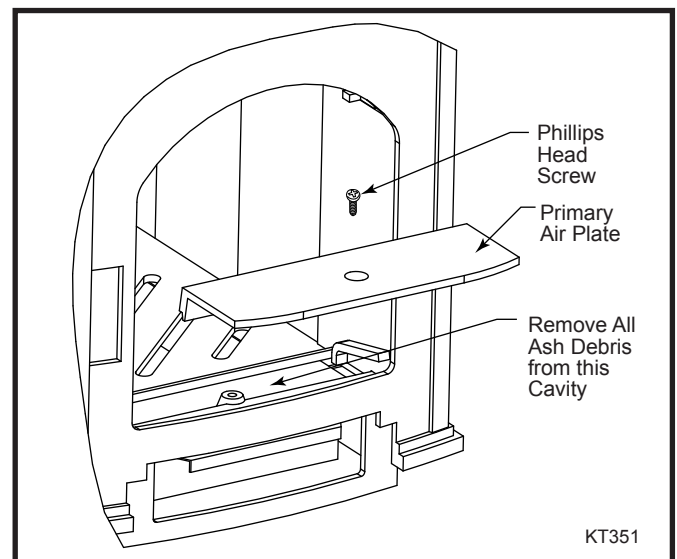

Fig. 34 Remove phillips head screw and primary air plate to clean ash from cavity.
1. Remove the phillips head screw that retains the Primary Air Plate. (Fig. 34)